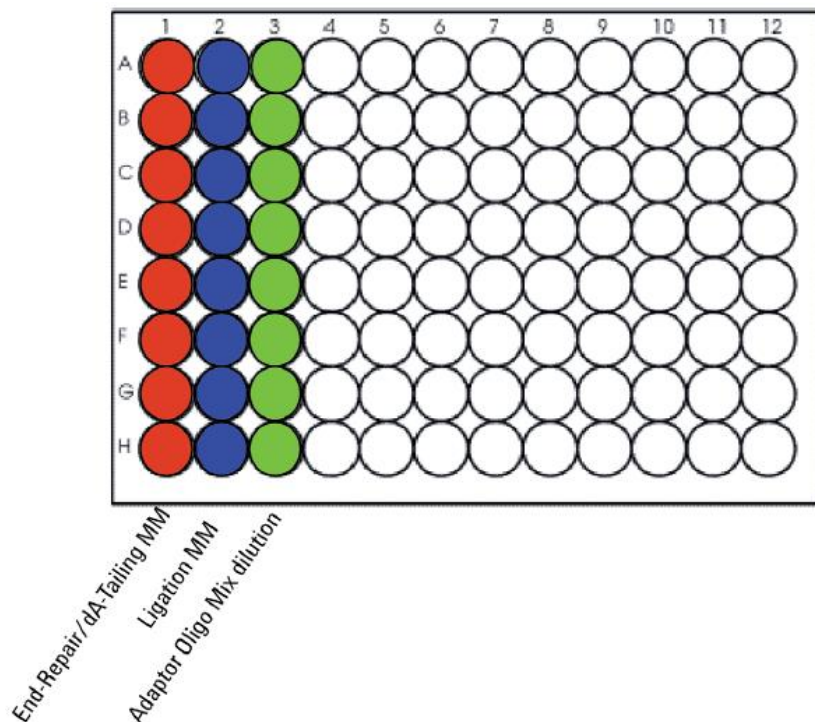

Figure 2. Configuration of the Agilent Deep Well master mix source plate for protocol 01 LibraryPrep_XT_HS2_ILM.
25. Prepare the master mix source plate containing the mixtures prepared on step 4 as shown on **Table 13** based on the number of columns needed. Distribute them as on **Figure 2**.